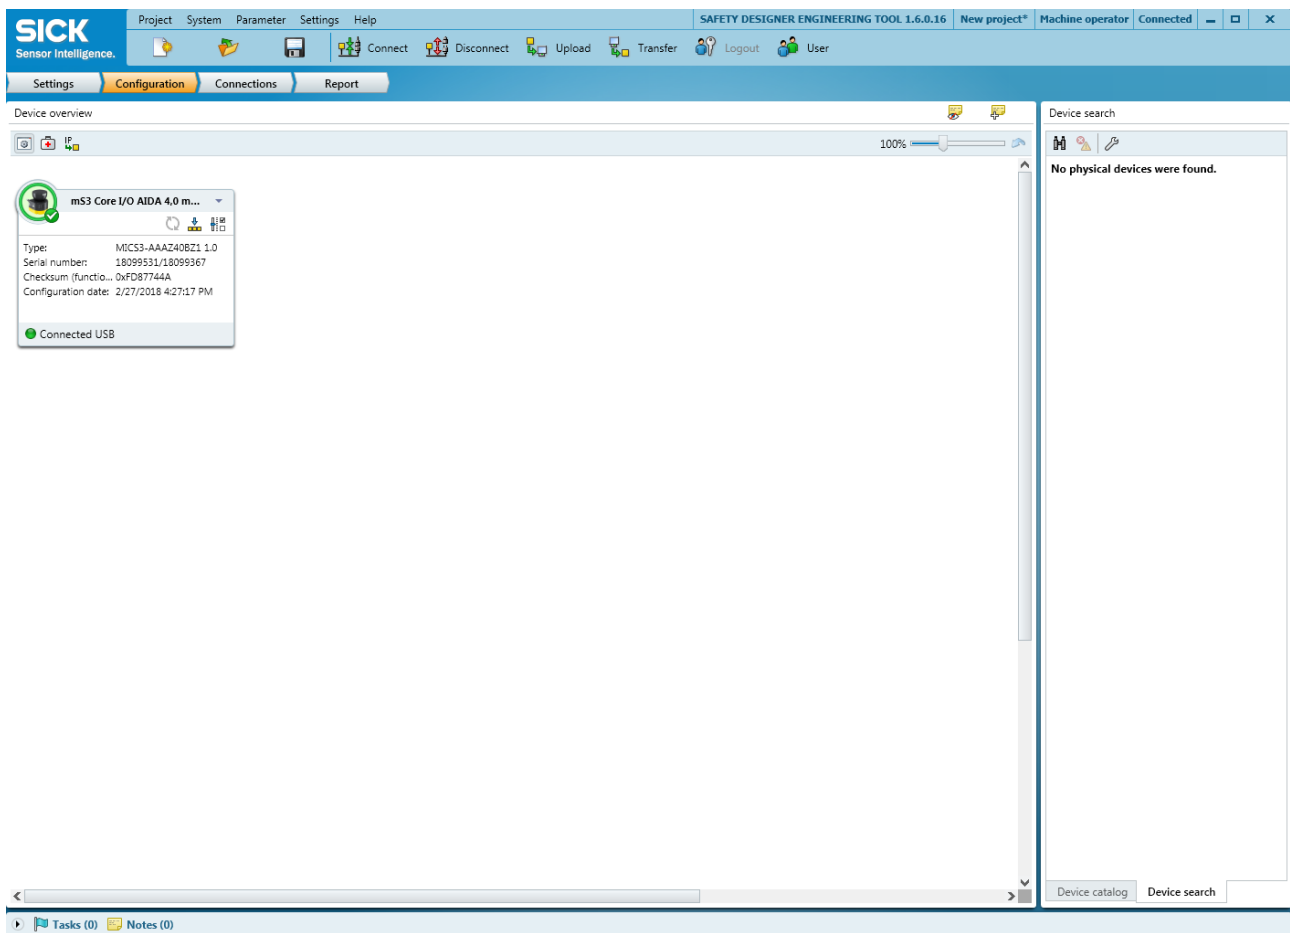

Figure 6: Functions and displays of the Device tiles
- ✓ The status of the tile will show **Connected** or **Addressable** (see figure 6, page 23).
- ✓ The status of the tile will change to **Connected** (see figure 6, page 23).
- ✓ If the device that matches a Device tile is found (matching serial number), the status of the tile will change to **Connected** (see figure 6, page 23).